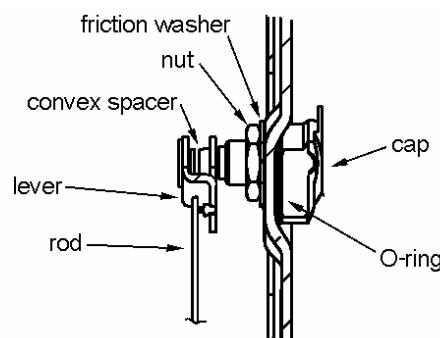

FIGURE 6
2. Fit the cap to the lock and place the O-ring in order to have it pressed between the door and the cap once installed (figure 6).